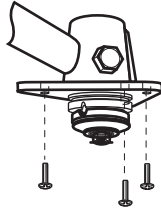

Fig. 3
1. Loosen the three pre-assembled screws on the gear head (Fig.3).